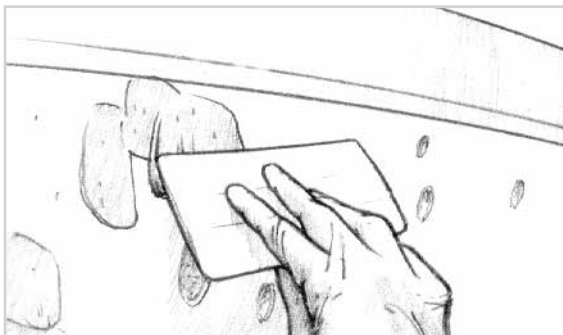

Figure 12-8 Trowel thickened fairing compound into the blister cavities with a plastic squeegee.
5. Apply the fairing compound into the blister cavities with a plastic spreader before the wet-out reaches its final cure phase. If the wet-out coat has reached its final cure, wash and sand the surface before applying the compound. Hold the squeegee at a low angle to leave the mixture smooth and filled slightly higher than the surrounding surface (Figure 12-8). Remove any excess epoxy before it cures.